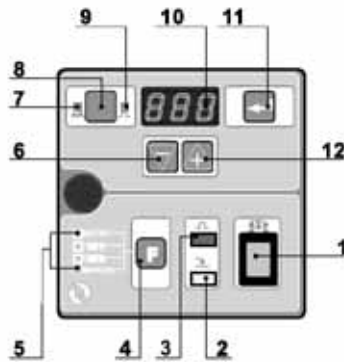

Fig. 23
9.4 - DLS- CC PUMP CONTROLS (Fig. 23)
9.6 - PARAMETERS SETTING MODE (Fig. 23)
- Turn pump ON (1)
- A. On the control panel press button F (4) and start manual mode: ("Manual" L.E.D. 5 ON)
- B. Select the minimum pump output required pressing buttons 6 and 12. If the minimum output is zero, set 000. Confirm with enter (11).